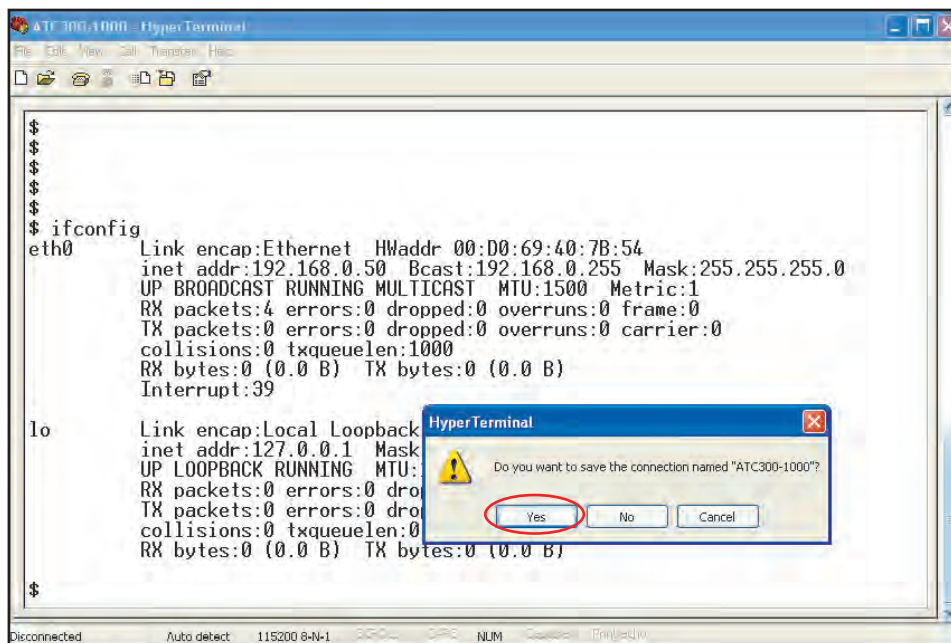

Figure 5-10. Save The ATC300-1000/2000 Controller Connection.
- Select **Yes** to save your session for use in the future (Figure 5-10).